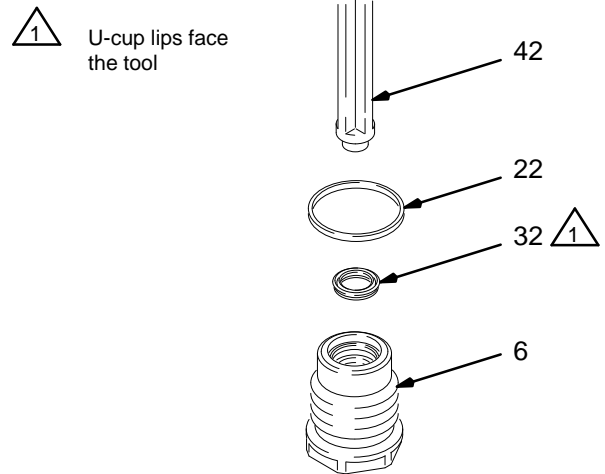

Fig. 40
- Remove the u-cup seal (32) from the fluid adjustment nut (6). See Fig. 40. Do not damage the seal surface or the nut's internal threads.
- Place the new u-cup seal (32) on the seal installation tool (42) with the u-cup lips facing the tool. See Fig. 40.
- Push the u-cup seal (32) into the fluid adjustment nut (6) until a definite snap is felt.